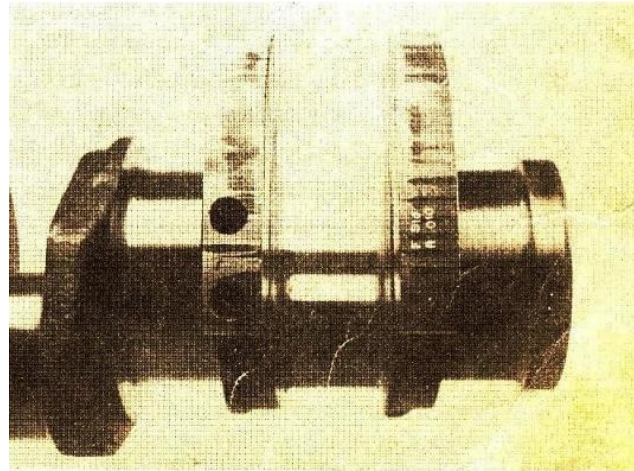

Fig. 1-17. Oversize thrust bearing mark on the crankshaft
7. The marking for undersize rod and main bearings should be on the front counter weight, oversize thrust ring size on the rear counter weight. Both thrust ring size and ring must be included in markings as shown in Fig. 1-17.